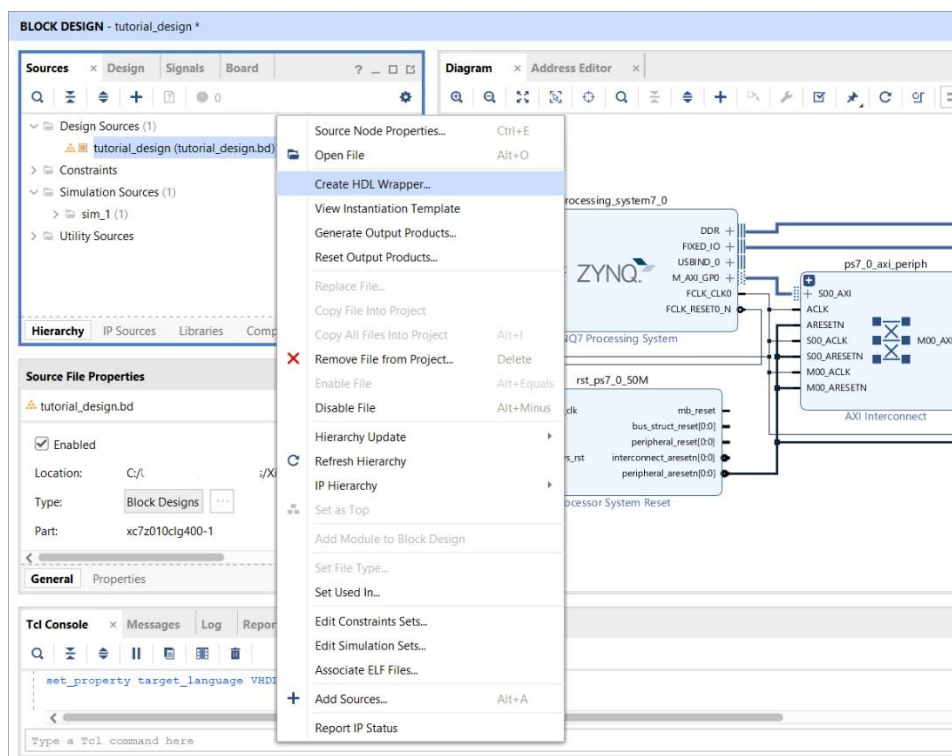

Figure 19
5. Right click on our block design **Design Sources** → **tutorial_design (tutorial_design.bd)** and select **Create HDL Wrapper...** (Figure 19)